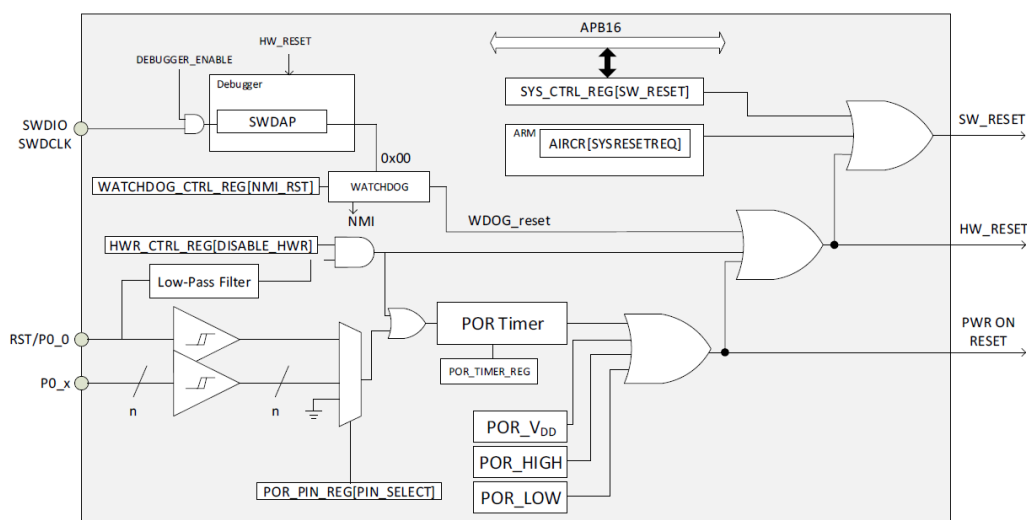

Figure 43: Reset Block Diagram
- RST pad is multiplexed with P0_0 pin (Figure 43)